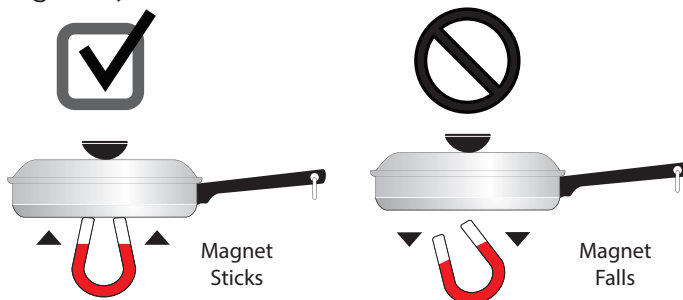

Figure 4: Magnet test
- **Stainless Steel** - Slow heat conductor. Durable, easy to clean, and resists staining. Some types of stainless steel will not work on an induction cooktop. Use the magnet test (see “Figure 4: Magnet test”) to check stainless steel cookware.